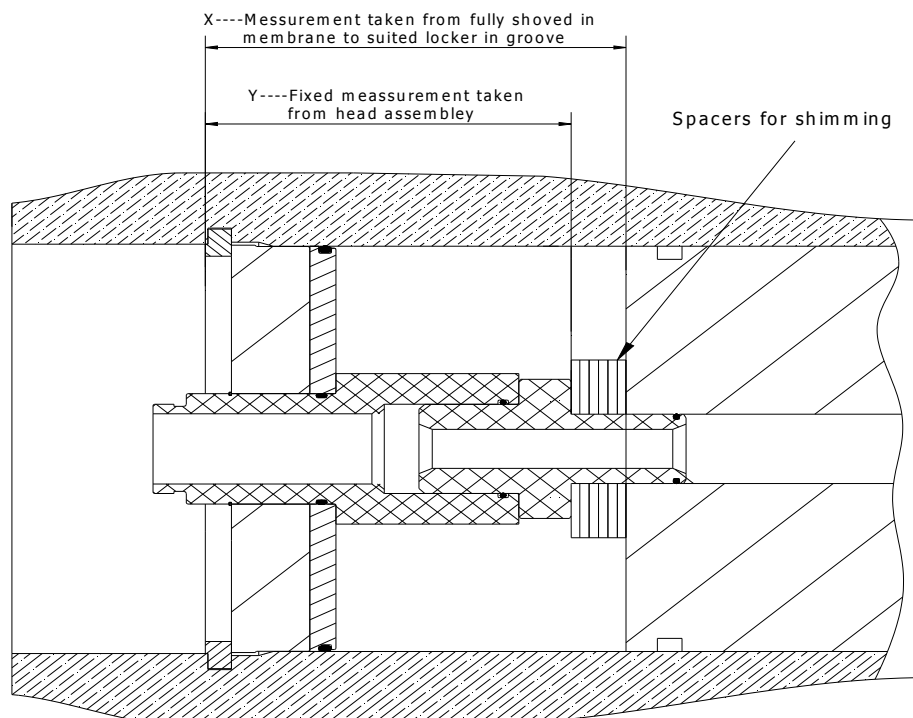

Figure2: Shimming for head assembly
2.3.03.03.02. – Head assembly at the feed side must be shimmed in order to keep minimum membrane movement during operation and flushing time (see *figure 2*).